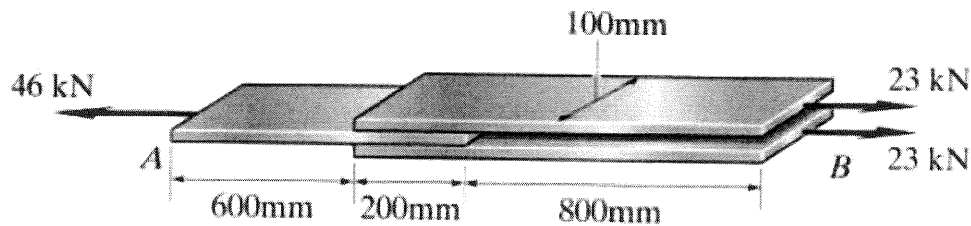

Figure 4: Bonded Steel Plates
- (b) The joint as shown in Figure 4 below is made from three (3) steel plates that are bonded together at their seams. Determine the displacement of end A with respect to end B when the joint is subjected to the axial loads shown. Each plate has a thickness of 5mm. Take $E_{\text{steel}} = 200\text{GPa}$.